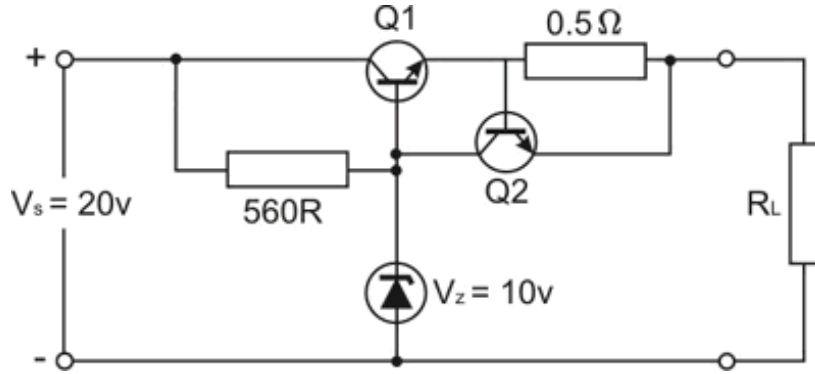

Figure 17
2. For the circuit of Figure 17: